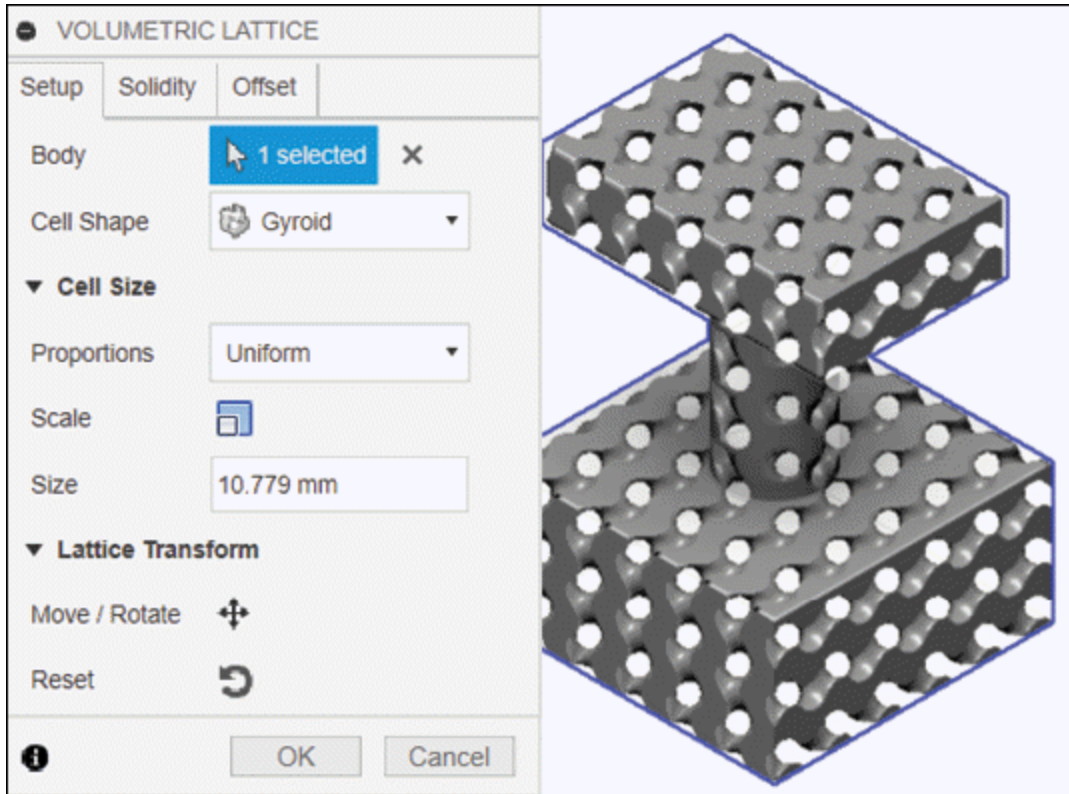

Figure-75. Preview of volumetric lattice
- Select the body which you want to convert to volumetric lattice. Preview of lattice will be displayed; refer to Figure-75.